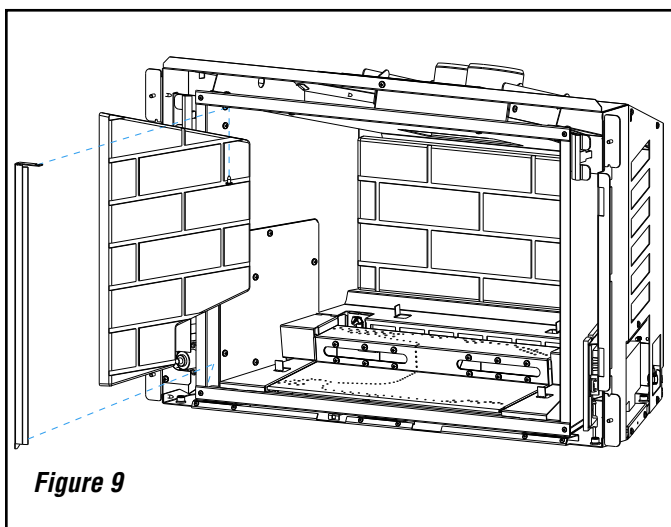

Figure 9
2. Remove the long refractory liner panel retaining brackets from the front sides of the firebox (**Figure 9**).
4. One at a time, install the side liner panels by sliding them into place (**Figures 9 and 10**).
- 5a. Brick patterned liner panels: using the long retaining brackets, insert the bottom tab behind the lower front edge of the Firebox and secure the top with a #8 x 3/8" Phillips screw provided with this manual (**Figure 9**).